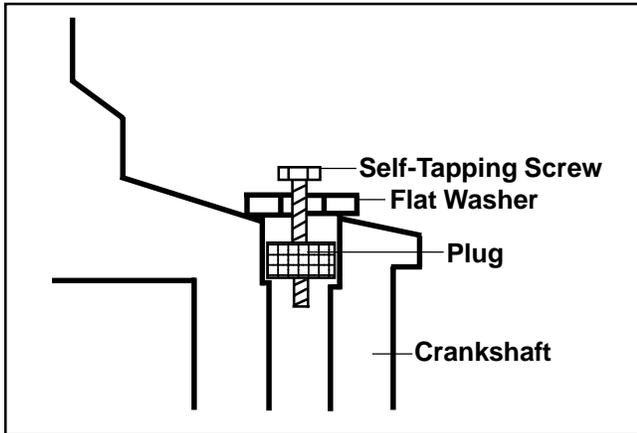

Figure 10-2. Removing Plug.
- Thread a 3/4" or 1" long self-tapping screw with a flat washer into the drilled hole. The flat washer must be large enough to seat against the shoulder of the plug bore. See Figure 10-2.